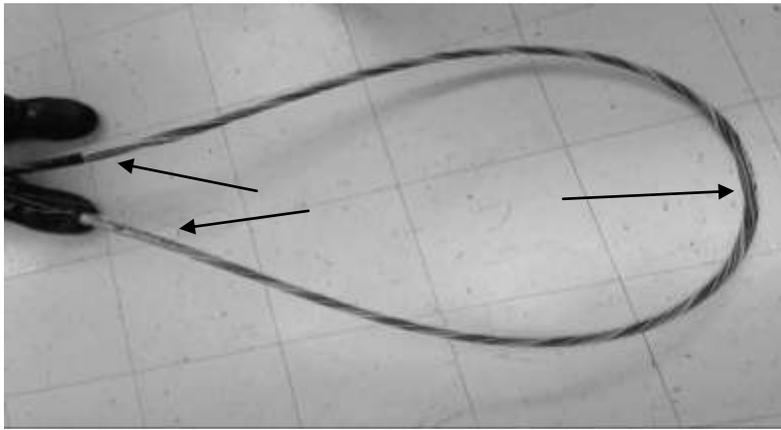

Figure 32 – Remove about 96” of cable jacket to expose three ROL locations indicated by the arrows.
7.1 Figure 32 shows a dual layer cable after the outer jacket, armor layer (if applicable), aramid strength members, and binder threads have been removed to expose the outer layer of buffer tubes. This step corresponds to the completion of Section 6.16 described above. For a dual layer cable, the distance between the reverse-oscillating-lay (ROL) locations in the outer layer is typically about 45". Therefore, about 96" of cable jacket should be removed to expose three ROL locations as shown in Figure 32.